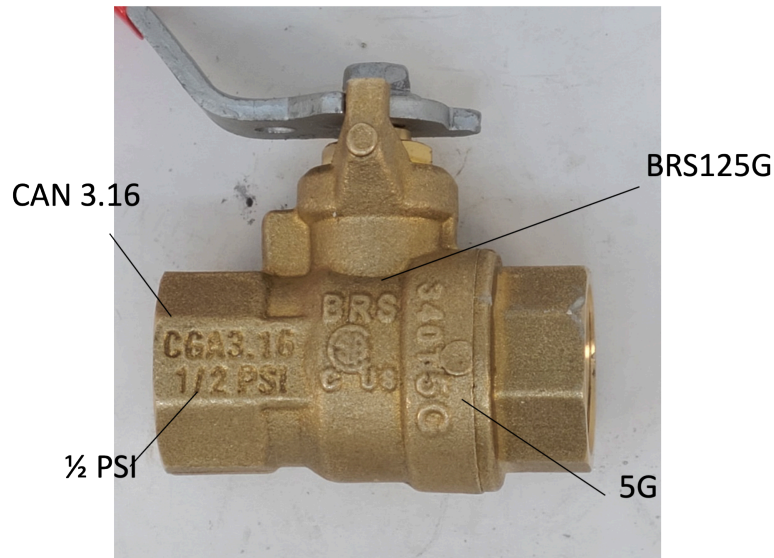

Figure 1. Valve markings
- Figure 1. “Valve markings” by Rod Lidstone is licensed under a CC BY-NC-SA licence.